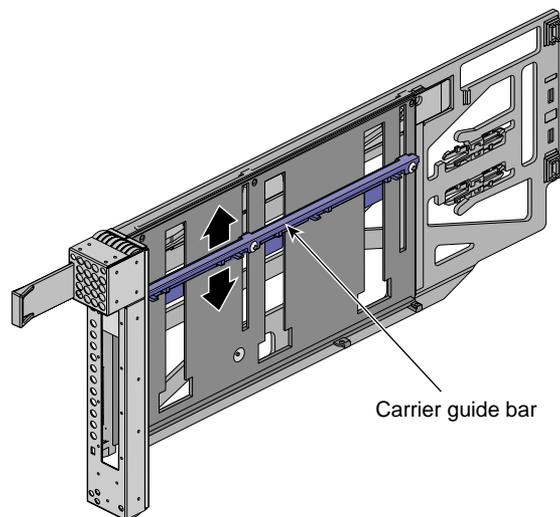

Figure 14-3 Adjusting Carrier Guide Bar
- b. Adjust the carrier guide bar (also known as the alignment rail) up or down as necessary (see Figure 14-3).